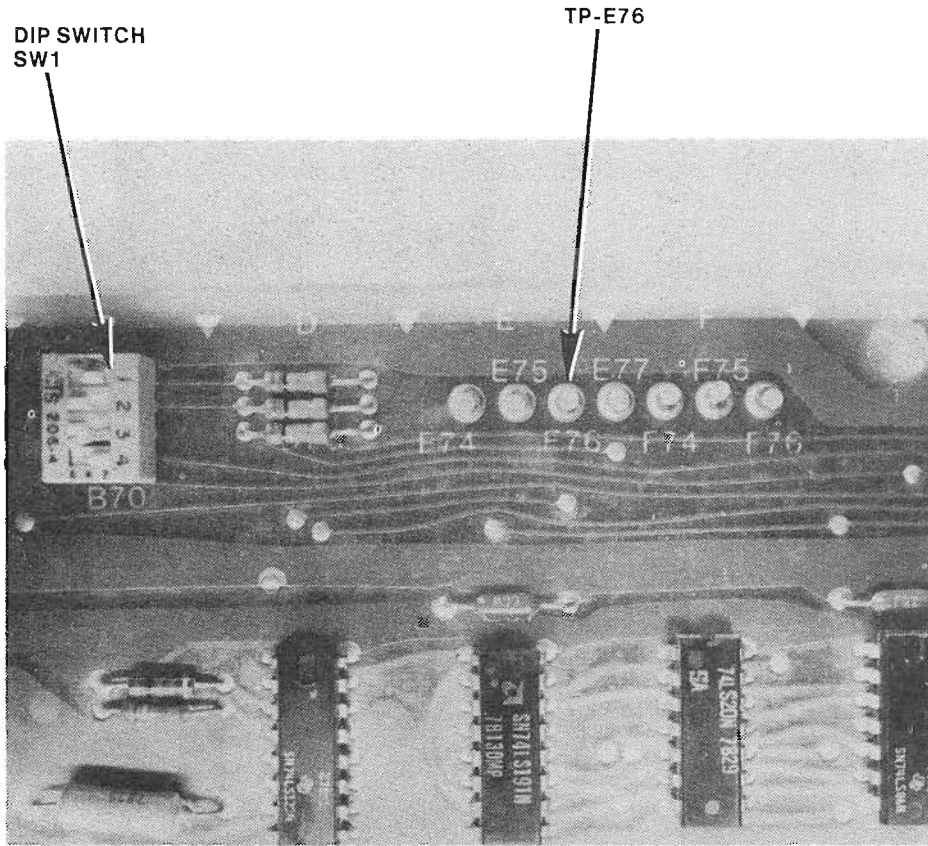
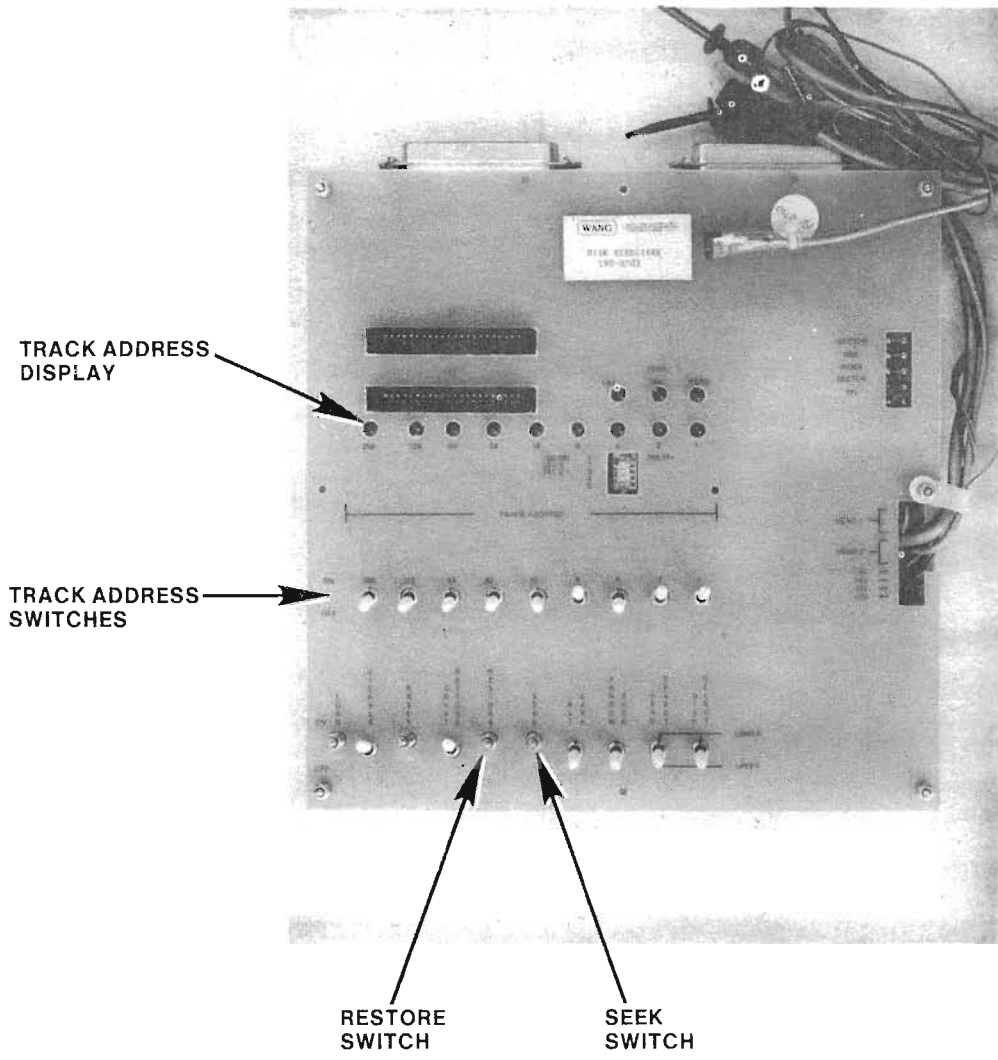
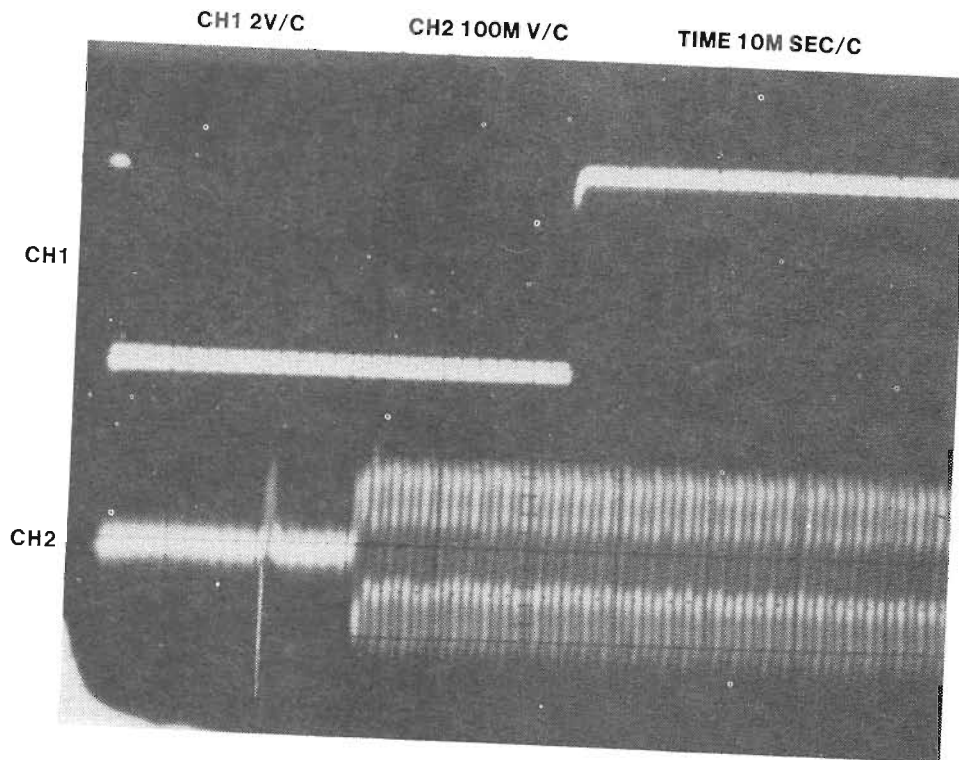
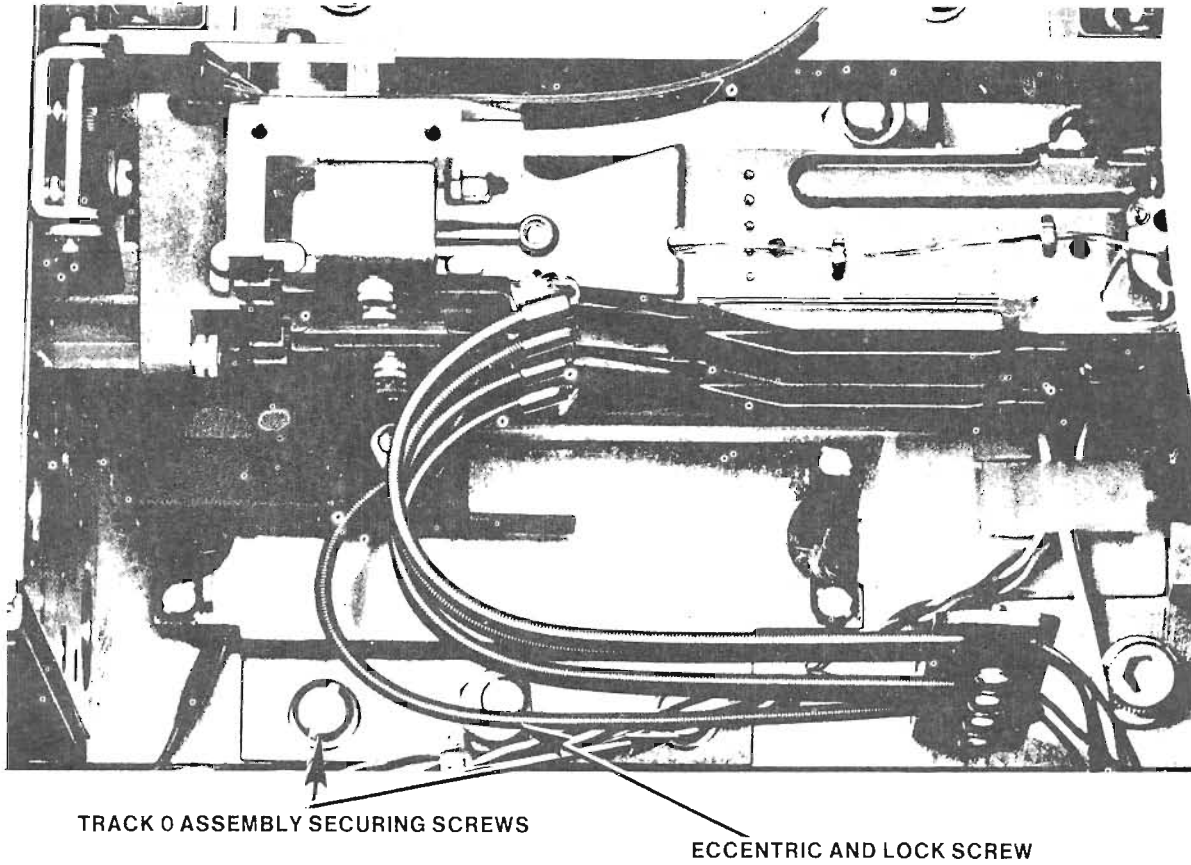

FIGURE 4 LOGIC PCB NO. 12141-DIP SWITCH AND TEST POINT LOCATION
FIGURE 6 DISK EXERCISER CONTROL PANEL
FIGURE 7. INDEX TO DATA BURST SIGNAL
FIGURE 8. TRACK-ZERO ASSEMBLY-SENSOR ADJUSTMENT AND SECURING SCREWS
- d. Depending on the logic PCB used, connect oscilloscope CH 1 probe (SYNC) to UPPER INDEX at TP-E76 on Logic PCB 12141 or TP-F75 on Logic PCB 12065 (see figure 4).
A Restore operation must be performed after each SEEK commanded in this procedure by momentarily depressing the disk exerciser RESTORE switch (see figure 6).
- g. Using Disk Exerciser 190-0703 (see figure 6), command a SEEK to Track 10 by setting TRACK ADDRESS switches 2 and 8 to ON and momentarily depress the SEEK pushbutton switch. Now monitor the upper head signal on the oscilloscope display for an "Index to Data Burst" signal as shown in figure 7.
If the Index to Data Burst pattern (see figure 7) does appear at Track 10, proceed directly to step l. and continue the procedure. If the Index to Data Burst pattern does not appear at Track 10, loosen both track-zero assembly securing screws (see figure 8) 1/8 turn and then the eccentric nut lock screw 1/4 turn (see figure 8). Perform the adjustment procedure presented in steps h. thru n.
- h. Turn eccentric nut (see figure 8) until the track-zero assembly is at its rearmost position on the positioner assembly.
- i. Using Disk Exerciser 190-0703 (see figure 6), perform successive cycles of Track 10 "SEEK and RESTORE" operations by momentarily pressing first the SEEK and then the RESTORE pushbutton switch while turning the track-zero eccentric nut (see figure 8) counterclockwise to obtain the Index to Data Burst" signal on oscilloscope display as shown in figure 7.
- j. Hold track-zero Assembly securely to the positioner assembly (to prevent changing the track-zero adjustment) and then tighten the two track-zero assembly securing screws (see figure 8).
- k. Repeat step i. above (Track 10 SEEK and RESTORE operations) to ensure that the track-zero Assembly adjustment position was not disturbed when tightening the securing screws and then tighten the eccentric nut lock screw (see figure 8).
- l. Using Disk Exerciser 190-0703 (see figure 6), restore the heads to track-zero position by momentarily pressing the RESTORE switch.
- m. Connect the digital voltmeter from ground to either test point TP-E76 on Logic PCB 12141 or test point TP-F75 on Logic PCB 12065 (see figure 4). A reading of  $2.6 \pm 0.2$  Vdc indicates that track-zero position is properly adjusted. Now proceed to the R/W Head Adjustment procedures contained in the Model 44B Disk Drive Maintenance Manual.
If a reading of  $+2.6 \pm 0.2$  Vdc is not obtained, loosen the two track-zero assembly securing screws 1/8 turn and the eccentric nut locking screw 1/4 turn (see figure 8). Now adjust the track-zero assembly eccentric nut for a reading of  $+2.6 \pm 0.2$  Vdc on the digital voltmeter connected between ground and either test point TP-E76 on the Logic PCB 12141 or test point TP-F75 on Logic PCB 12065 (see figure 4).